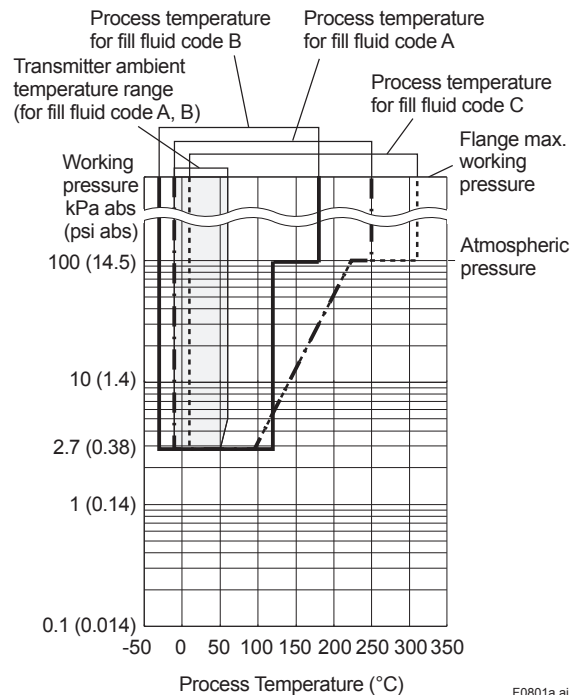

Figure 8.1a Working Pressure and Process Temperature (Fill fluid: silicone oil for general and high temperature use)
For atmospheric pressure or below, see figure 8.1a through 8.1e.
- *1: See figure 8.1a through 8.1e 'Working Pressure and Process Temperature.'